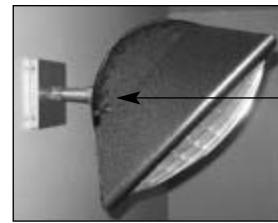

Figure 1
- Heaters to be mounted on the wall should have the assembly attached below the center of the heater (standard configuration - Figure 1).